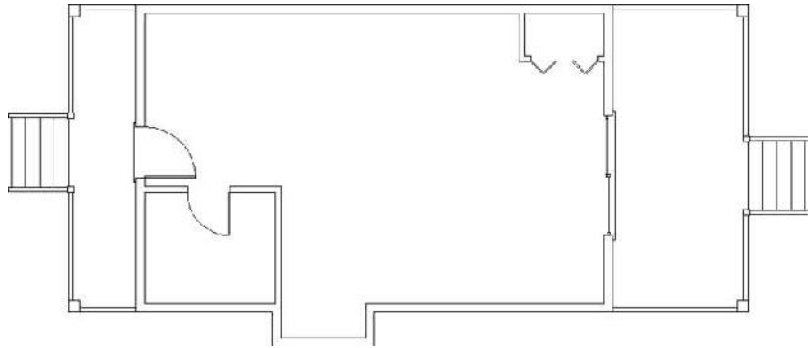

FIGURE 7.14: The floor plan with all swinging doors converted into blocks
The A-DOOR-36IN (A-DOOR-0762) block is inserted into your drawing at the bathroom door opening (see Figure 7.14).
10. Use the Zoom Extents tool to show the entire cabin in the drawing area (see Figure 7.14).